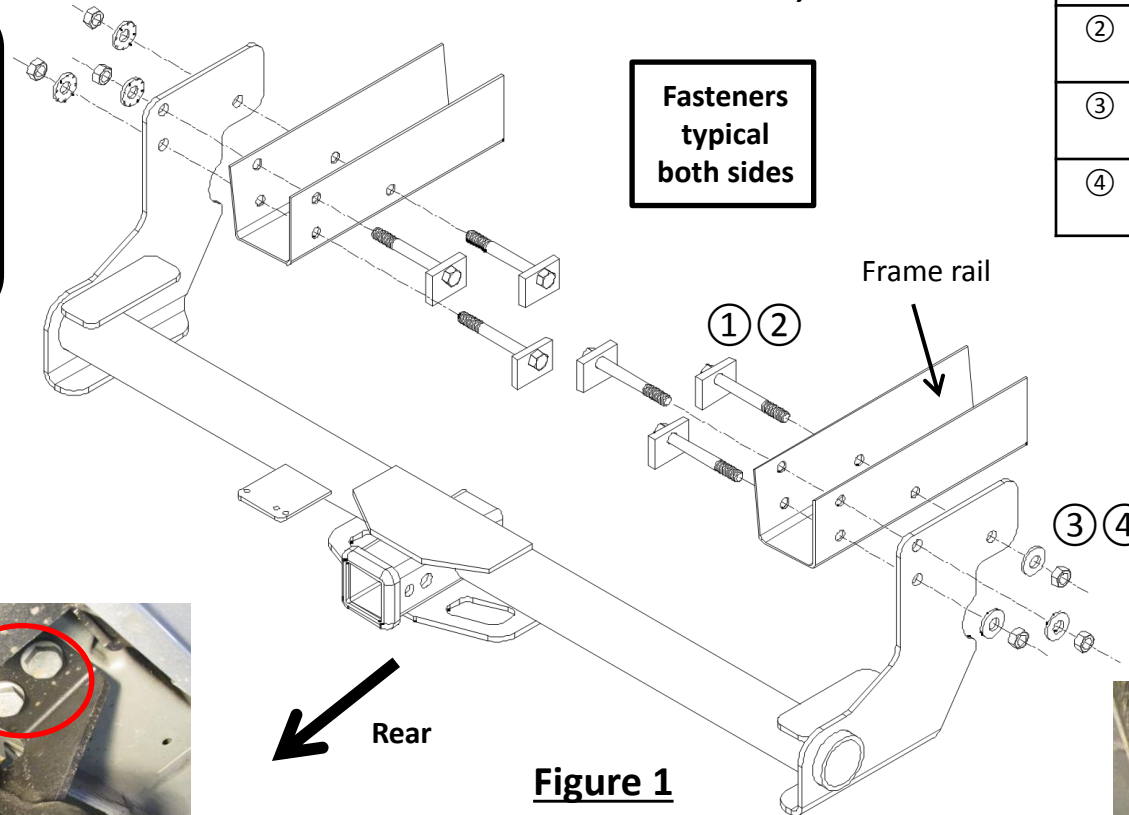

Figure 1
- Hitch installation** - raise the hitch into position and align bracket holes to outside frame rail holes. Inset bolt ① and block ② from inside of frame rail holes to the bracket holes, and loosely secure conical washer ③ and nut ④ to the hitch, see **Figure 1**.